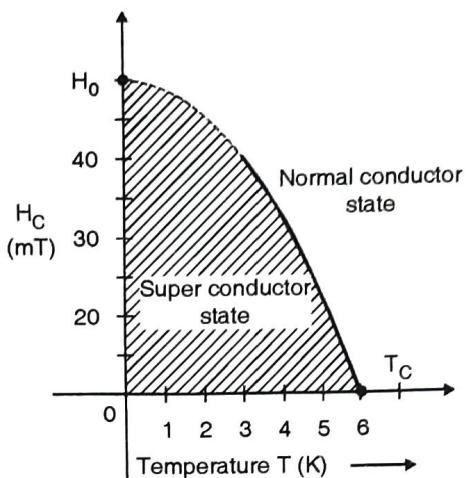

Fig. 5.3.2 : Effect of magnetic field on superconductor
- Consider that for a superconductor, if sufficiently strong applied magnetic field \mathbf{H} is increased at any temperature T below critical temperature T_c , then superconductor is found to be converted into normal resistive conductor. That is, transition of superconductor to normal conductor takes place under the applied sufficient magnetic field. This is as shown in Fig. 5.3.2.
- From the Fig. 5.3.2 is found that within the curve the material is in superconducting state and outside the curve it is in normal conducting state.